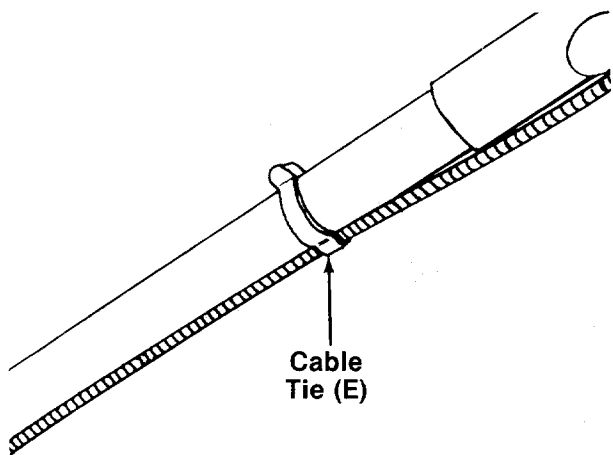

FIGURE 9.
13. Secure throttle control cable and blade brake cable to upper and lower handles with cable ties (E) provided. See figure 9.
14. Insert plastic plug (G) into hole in the top rear of the deck by slipping one end of plug into hole, then pressing down on the other end of plug.